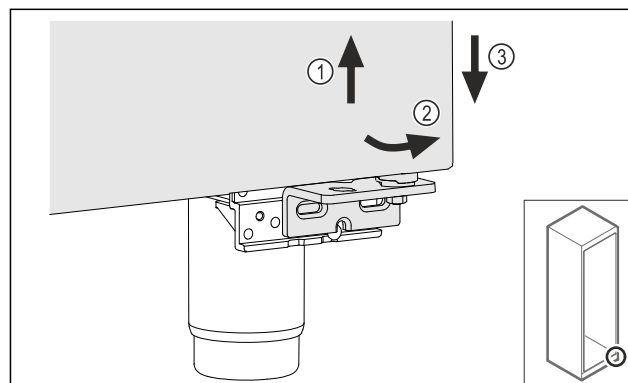

Fig. 12
- Lift the door slightly Fig. 12 (1), tip it forward Fig. 12 (2) and lower it Fig. 12 (3).